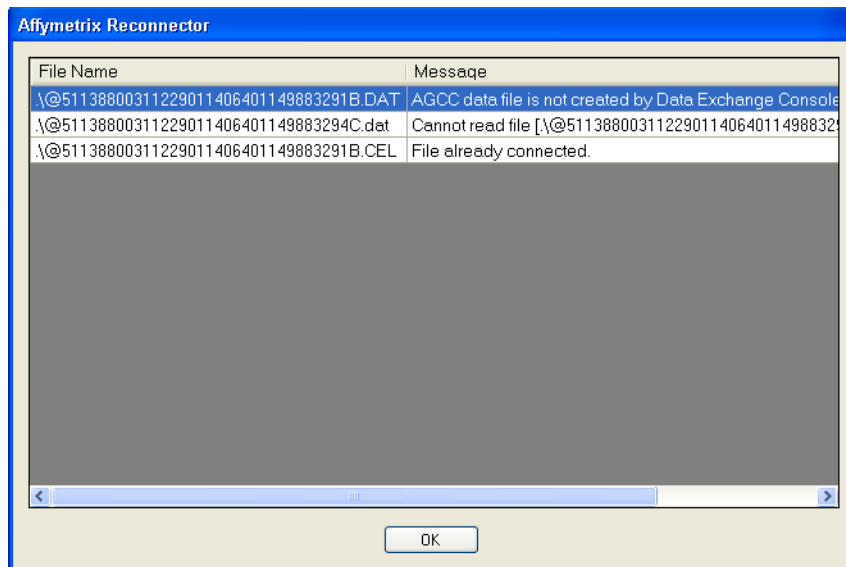

Figure 3.5 Filter window
3. Click the **Filter** button to show a list of files (Figure 3.5) that are not eligible for the merge operation.